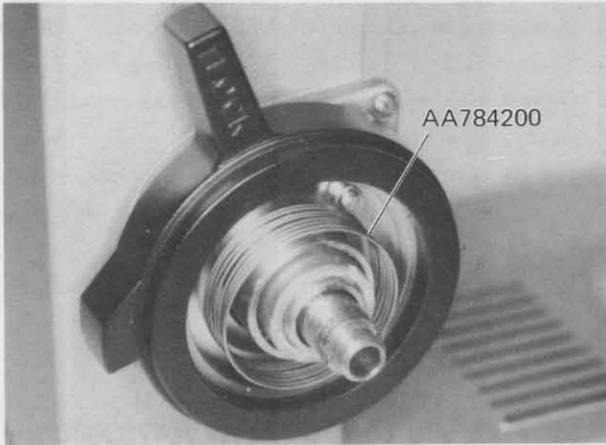
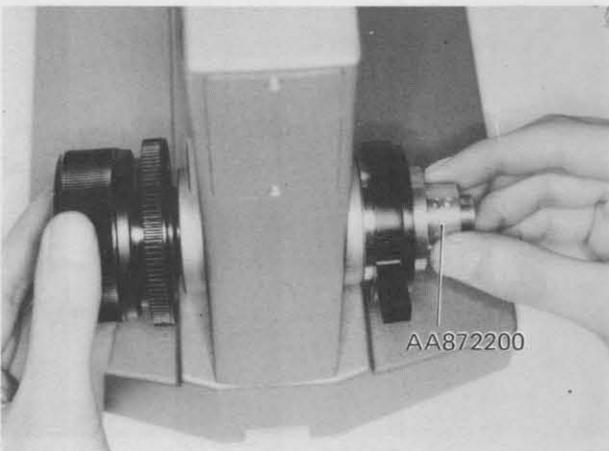
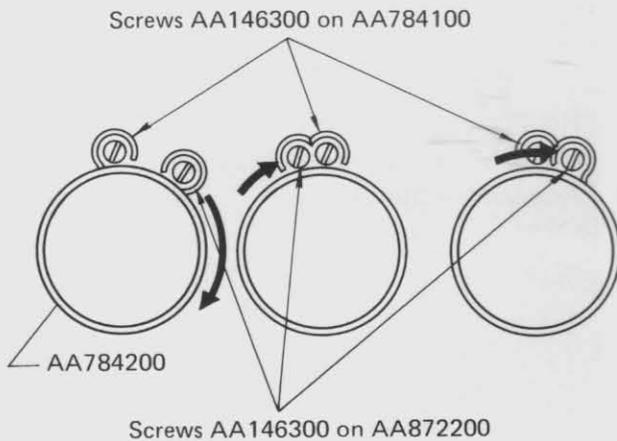

Fig. 4-20
Fig. 4-21
Fig. 4-22
b) Reassemble Spring AA784200. (See Fig. 4-20)
- (1) Fit Stopper screw AA146300 located on Bearing AA872200 into the circular part attached at the other end of Spring AA784200 as shown in Fig. 4-20. While depressing the bearing lightly to the microscope stand, turn the knob clockwise as far as it can go. (Fig. 4-21) When it is stopped, ride the knob over the stopper while allowing the bearing to be a little apart from the microscope stand once again. (See Fig. 4-22)
Reassembly of the coarse adjustment knob should be performed in the sequence of A → B → C illustrated in Fig. 4-22.